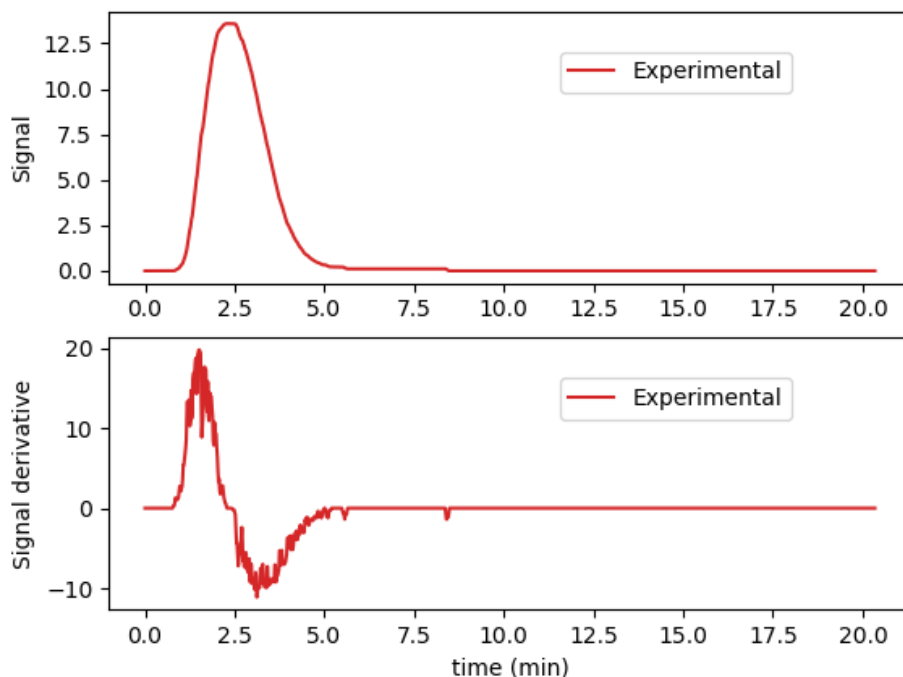

Fig.4. Example of experimental signal and its derivative graphs.
Step 3. To show the loaded signal - Y vs X and its derivative - $\frac{dY}{dX}$ vs X, please press the 'Show experimental signal' button. If everything is OK with data, a graph similar to the following, Fig. 4 will be plotted.